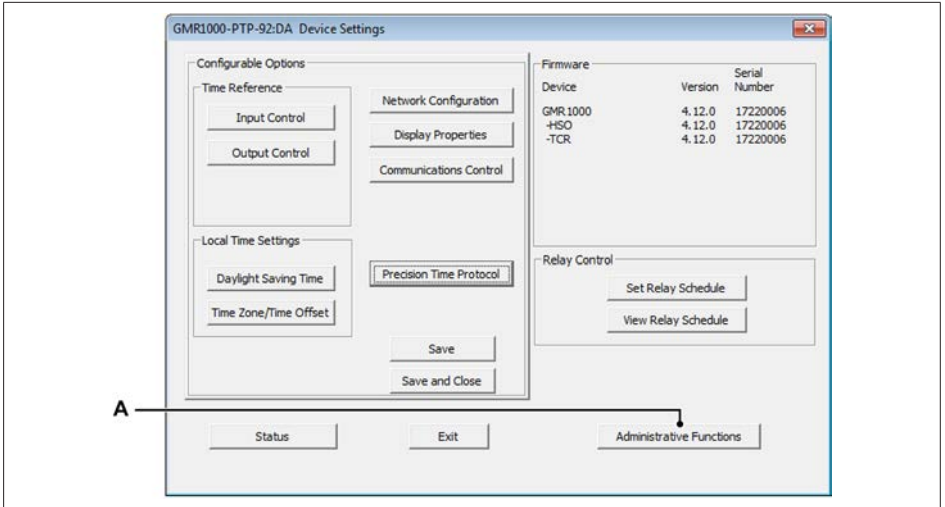

Fig. D.25 GMR1000 PTP Device settings
- Finally, close the Advanced (data sets) and PTP - Precision Time Protocol windows. This will bring back the GMR1000 PTP device settings window (see Fig. D.25).
- As the IRIG signal contains no date, this needs to be entered manually. Open the **Administrative Functions** dialog with the **Administrative Functions (A)** button (see Fig. D.25)